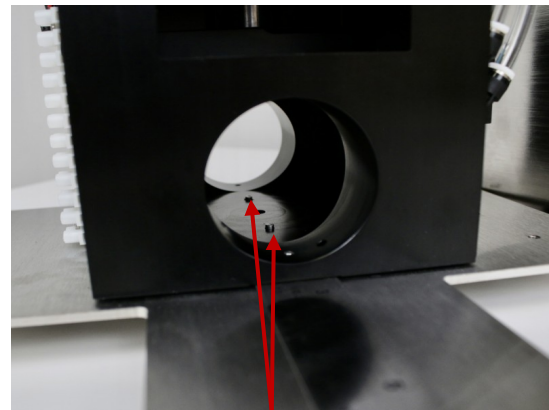

Figure 3.2.5 Keyway pins in knife block
- Align keyways to pins in knife block when installing bushings. **Figure 3.2.5**